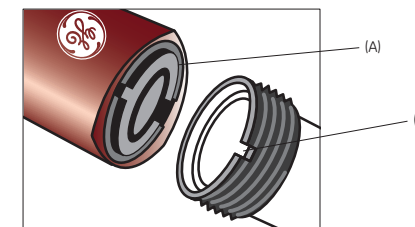

Fig 3. Adapter unit and slot on column tube threads.
2. Place the filter holder into the bottom of the column tube and secure it with the cap. Make sure the inner locking device keys with the slot on the column tube threads (Fig 3, A). Insert a stop plug into the bottom unit.
12. Screw the guiding ring (Fig 3, A) inside the adapter unit down to its end position so that it is level with the bottom of the adapter unit, see Fig 3.
15. Screw the adapter unit onto the column tube, ensuring the inner part of the guiding ring fits into the slot on the column tube threads. (Fig 3, B) Make sure that there are no air bubbles.
7. Screw the adapter unit onto the column tube, ensuring that the inner part keys with the slot on the column tube threads (Fig 3, A).